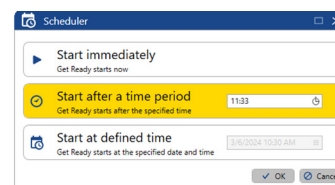

Figure 3. Schedule the Get Ready process as an option to have the instrument ready for analysis at a given time
- Schedule Get Ready: Set the instrument to start the plasma and perform applicable performance checks at a user-specified time in the future; the system will be ready to analyze when needed (Figure 3).